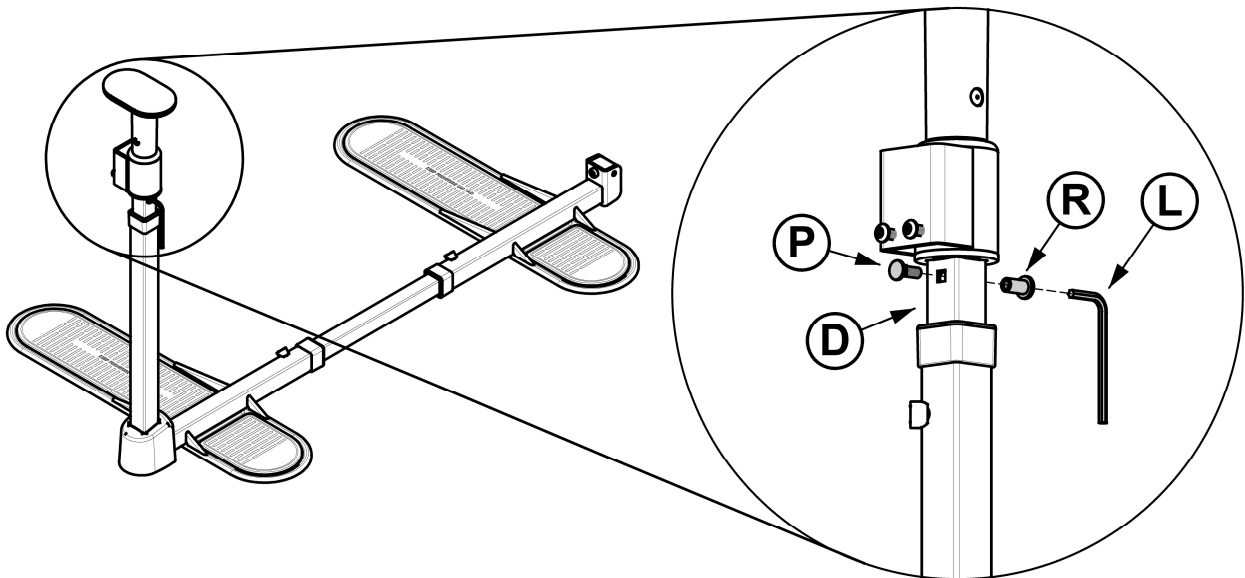

FIGURE 8
8. Install Carriage Bolt **P** through the small square hole of Upright **D**. Thread on Union Bolt **R** using Tool **L** as shown in *FIGURE 8*.